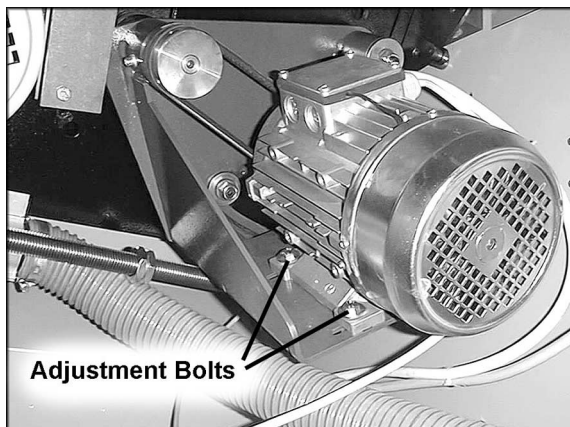

Figure 36
1. Remove the access door and loosen the four bolts (Figure 36) which hold the motor.